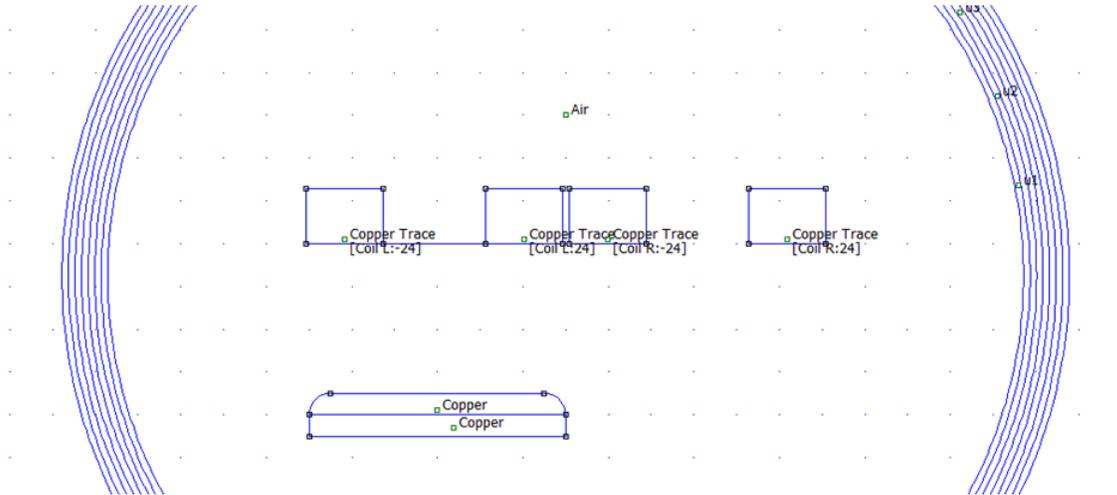

Figure 2-15. Example Planar Problem Workspace With Defined Circuits for Racetrack Coil
- ii. To model the current flow, define two circuits with the same current magnitude. One should be positive and the other should be negative. Assign one to each side of the racetrack coil. Your workspace should look similar to Figure 2-15: